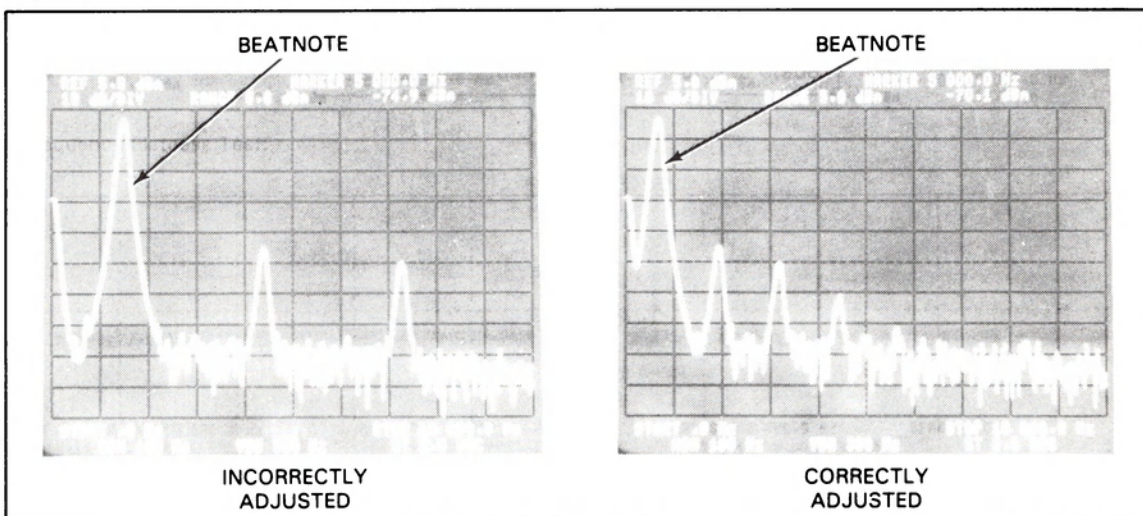

Figure 7-30. Beatnote Adjustment
- r. Adjust the -hp- 8640B frequency until the beatnote displayed on the -hp- 3585A (largest signal) is less than 1 kHz. (See Figure 7-30)